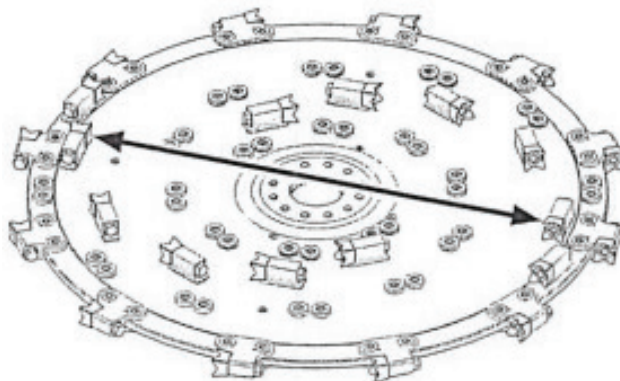

Figure 2
7. Always replace two (2) tooth holders of equal weight [Figure 2], and install them 180° opposite to each other on the disc to prevent the disc from being unbalanced. Always use new cap screws and sleeves when replacing them.